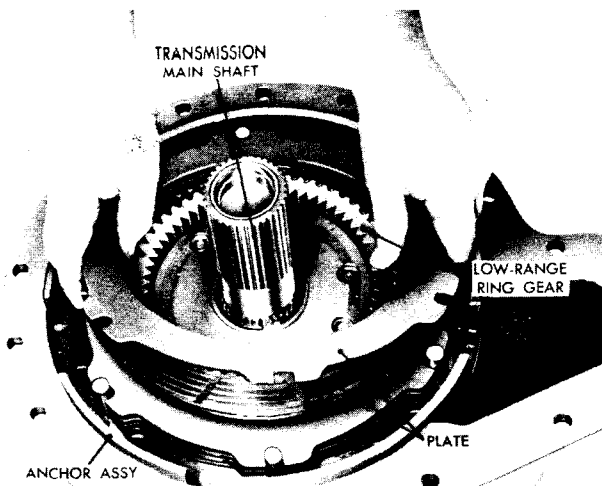

Fig. VII-20. Installing last low-range clutch plate
(8) Install another external-tanged plate, another internal-splined plate and the remaining external-tanged plate (fig. VII-20).